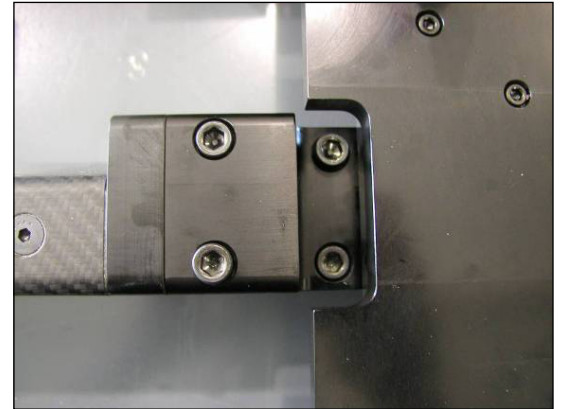

Fig. 9
- A. Move the unbalanced, lower lying beam to the notch on the edge of the back cover to expose all 4 screws (Fig. 9).